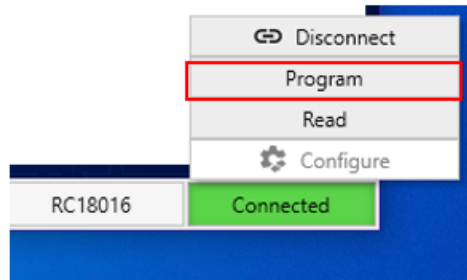

Figure 24. Program Button
3. Click the *Program* button to write all the changed registers from the GUI to the on-board device. Any register changes made after clicking the *Program* button will occur in real-time and the device will update (see Figure 24).